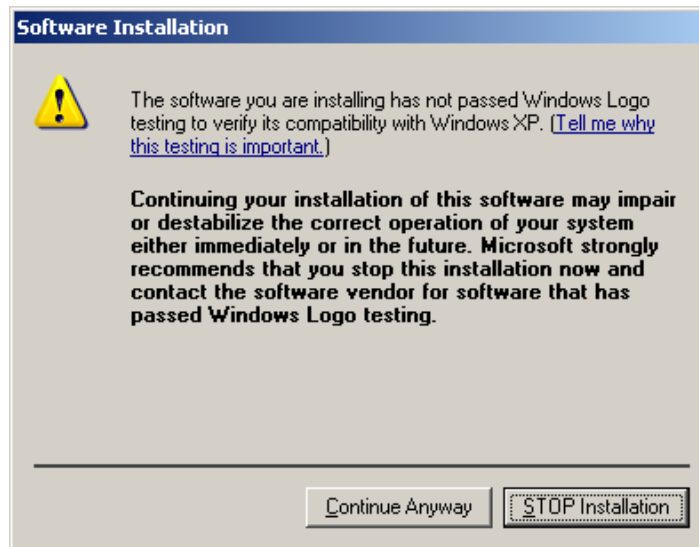

Figure 9: CP2101 USB Driver Windows Logo Testing
3. Depending upon your computer's configuration, the screen in Figure 9 may appear (more than once). If the dialog appears simply press the **Continue Anyway** button.